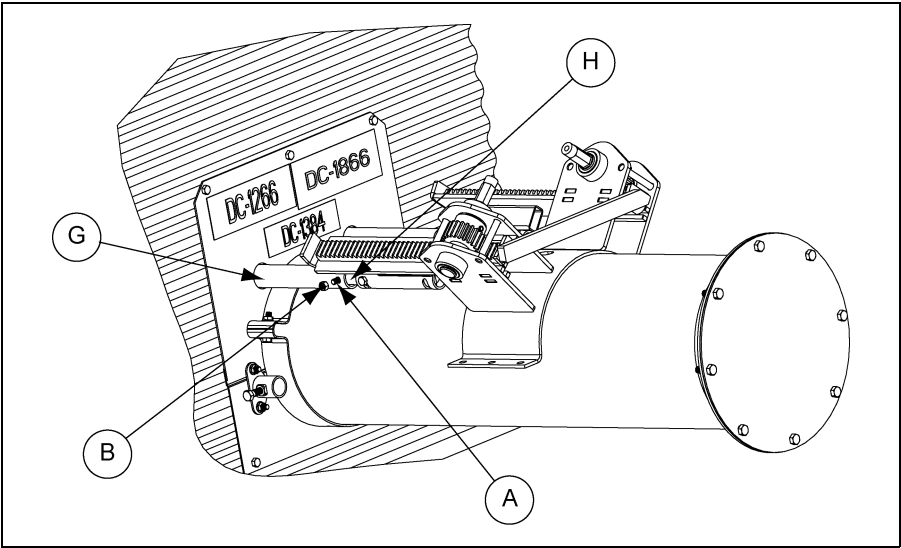

Figure 4U
4. Attach the rack and pinion to the control rods using two (2) 5/16" x 1-3/4" hex bolts (A) and hex nuts (B). (See Figure 4U.)